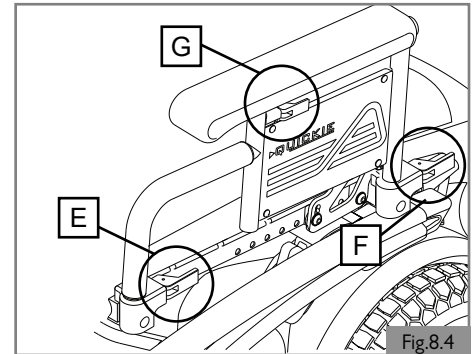

Fig.8.4
8.4 Dual-post height adjustable armrest (Option) (Fig 8.4)